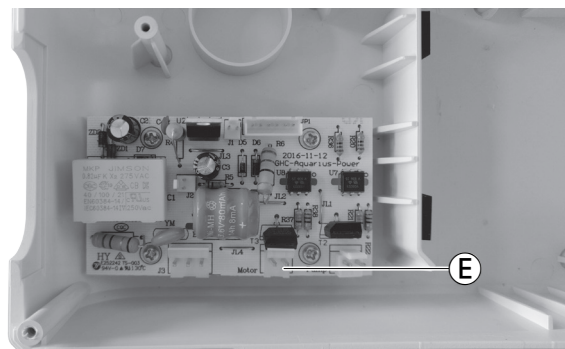

Fig. 4-18
5. Unplug the yellow motor wire from the PCB (see Fig. 4-18).